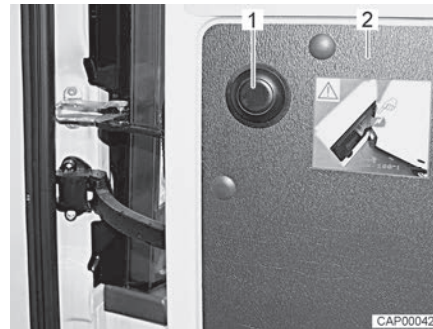

Fig. 9 Push button to release the limitation
- Open the rear door (Fig. 9,2) as far as it will go.
- Press the push button (Fig. 9,1), hold rear door and continue opening carefully.